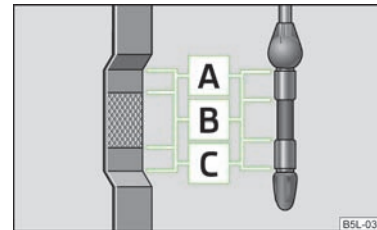

Fig. 161
The dipstick indicates the level of oil in the engine » Fig. 161.
- Oil **must** be refilled » Fig. 161. It is sufficient, once this is done, to keep the oil level within range **B**.